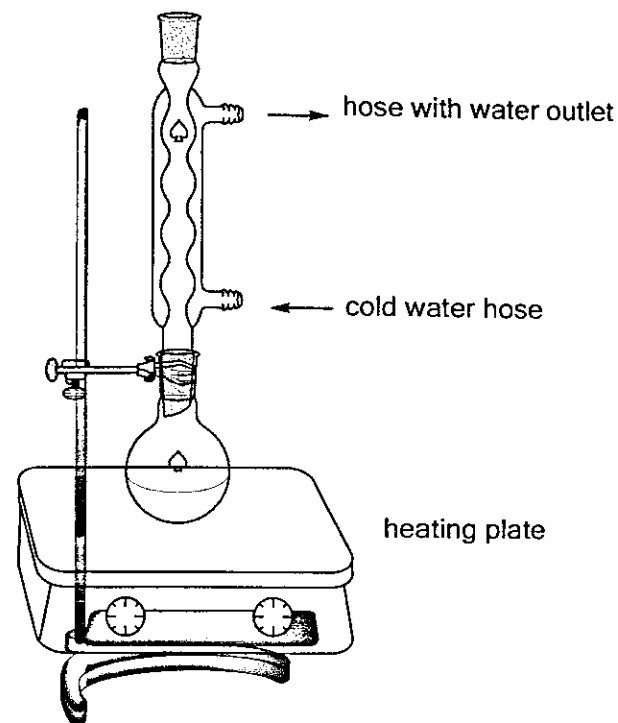

Fig. 3/2003. A setup for benzimidazole synthesis.
- Calculate the volume of the 42 % aqueous solution of formic acid required to complete the reaction (note that a ten-fold excess of the formic acid solution is needed to attain the complete reaction). Place the calculated volume of formic acid into the flask and add the boiling chips. Attach the reflux condenser to the flask and place the setup over the hotplate. Boil the mixture under reflux for about 1 h (fig. 3/2003).